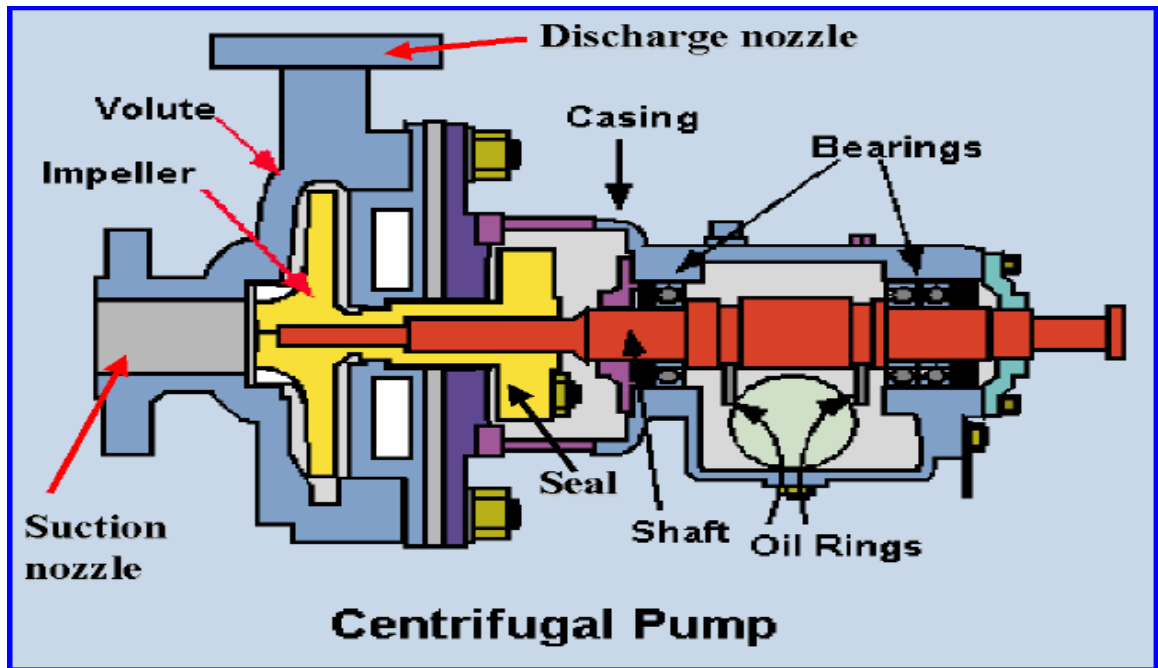

Figure B.01: General components of Centrifugal Pump
- The general components, both stationary and rotary are shown in Figure B.01.